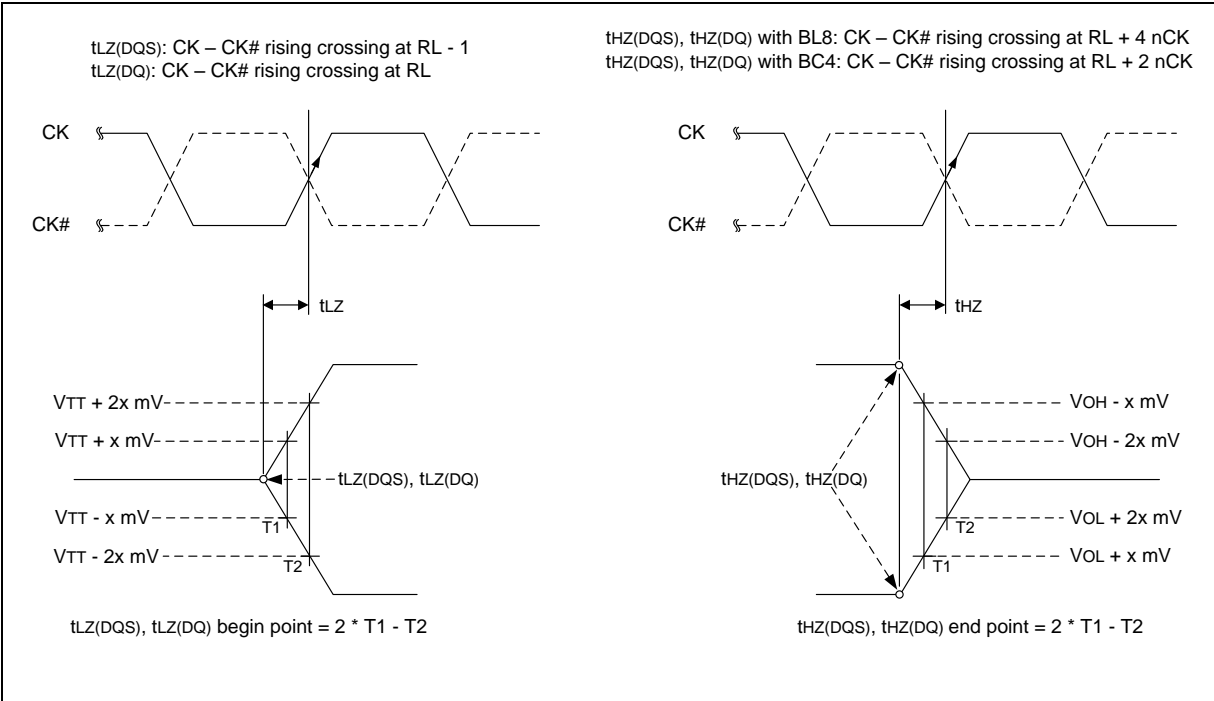

Figure 26 – tLZ and tHZ method for calculating transitions and endpoints
$t_{LZ}(DQS)$ ,  $t_{HZ}(DQS)$  for preamble/postamble (see section 9.13.2.3 and Figure 26).
9.13.2.3 tLZ(DQS), tLZ(DQ), tHZ(DQS), tHZ(DQ) Calculation
thz and tlz transitions occur in the same time window as valid data transitions. These parameters are referenced to a specific voltage level that specifies when the device output is no longer driving thz(dqs) and thz(dq), or begins driving tlz(dqs), tlz(dq). Figure 26 shows a method to calculate the point when the device is no longer driving thz(dqs) and thz(dq), or begins driving tlz(dqs), tlz(dq), by measuring the signal at two different voltages. The actual voltage measurement points are not critical as long as the calculation is consistent. The parameters tLZ(DQS), tLZ(DQ), tHZ(DQS), and tHZ(DQ) are defined as singled ended.